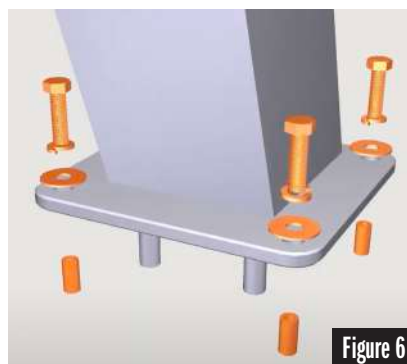

Figure 6
- -Remove the hardware from the flat end of the Extension Arm (Part B) & discard tubes. See Figure 6.